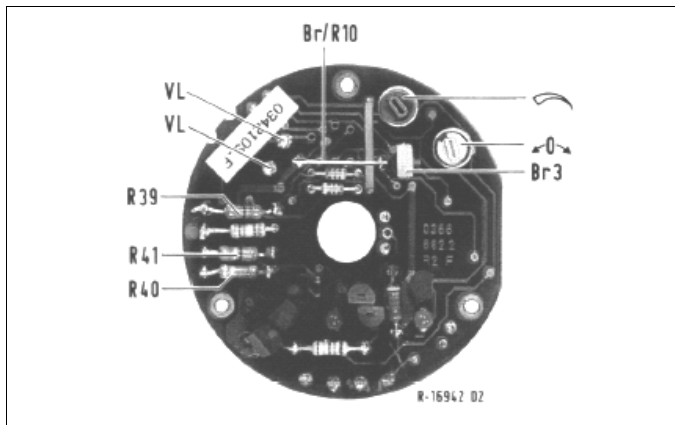

Fig. 2-2 Printed circuit board with LP2 electronics
- The connection lines between the differential capacitor and the soldering terminals on the LP2 have to be resoldered (see Fig. 2-2 page 13).